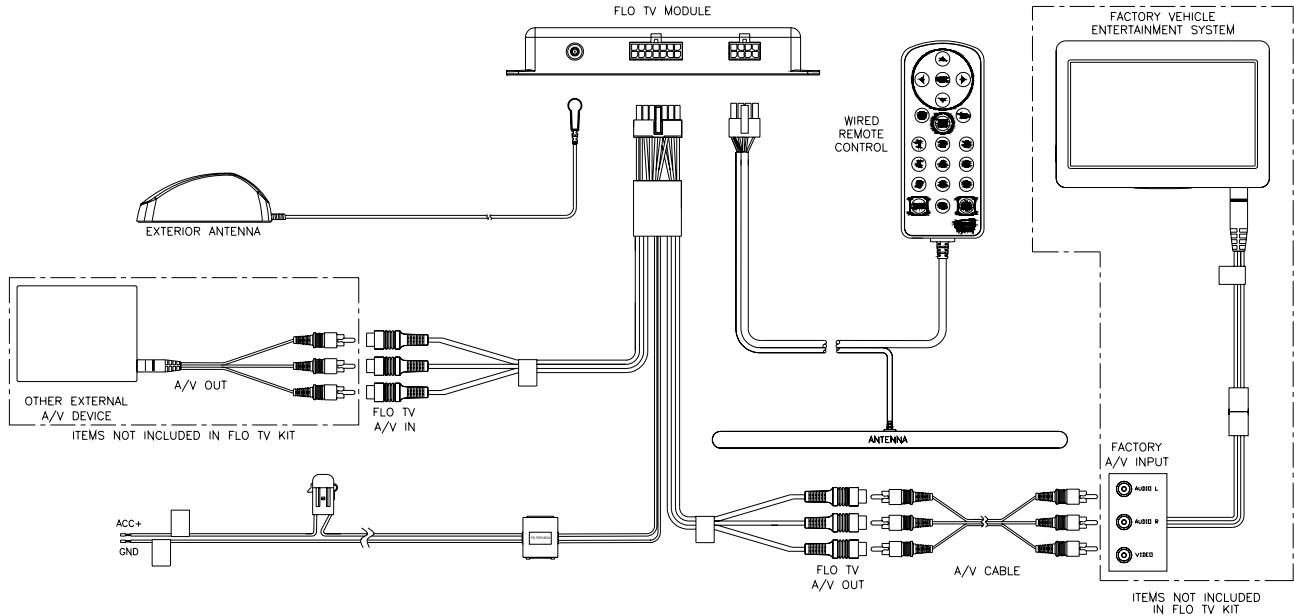

Figure 1 - FLO TV Wiring Diagram with Factory VES & A/V Input
An overview of the FLO TV kit wiring diagram for connection to a Factory Vehicle Entertainment System (VES) is shown in Figure 1 below.
The Audio/Video Output connectors on the Main Harness provide the audio and video output from the FLO TV Module, which must be connected to the vehicle's factory VES. Refer to Figure 1, herein, for an overview of the wiring diagram.
1. Locate the factory VES Audio/Video Input jacks. Refer to the vehicle owner's manual for the detailed location of the Audio/Video Input jacks. See Figure 1 for reference.